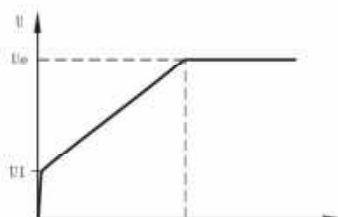

Figure 12-2-1
- a) The soft starter will be under voltage starting mode when code F9 is set to 1 (voltage). Figure 12-2-1 shows the output voltage wave of the output ramp starting. U_1 is the starting voltage value at start, when the motor starts, if the current of the motor is within the range of the rated value 400%, the output voltage of the soft starter will increase to U_1 rapidly, then the starting parameter set according to the output voltage will rise gradually, and the motor will accelerate smoothly with the rising of the voltage and reach the rated rotation speed when the voltage reaches the rated voltage U_e , then the built bypass contactor will close and the whole starting process completes.